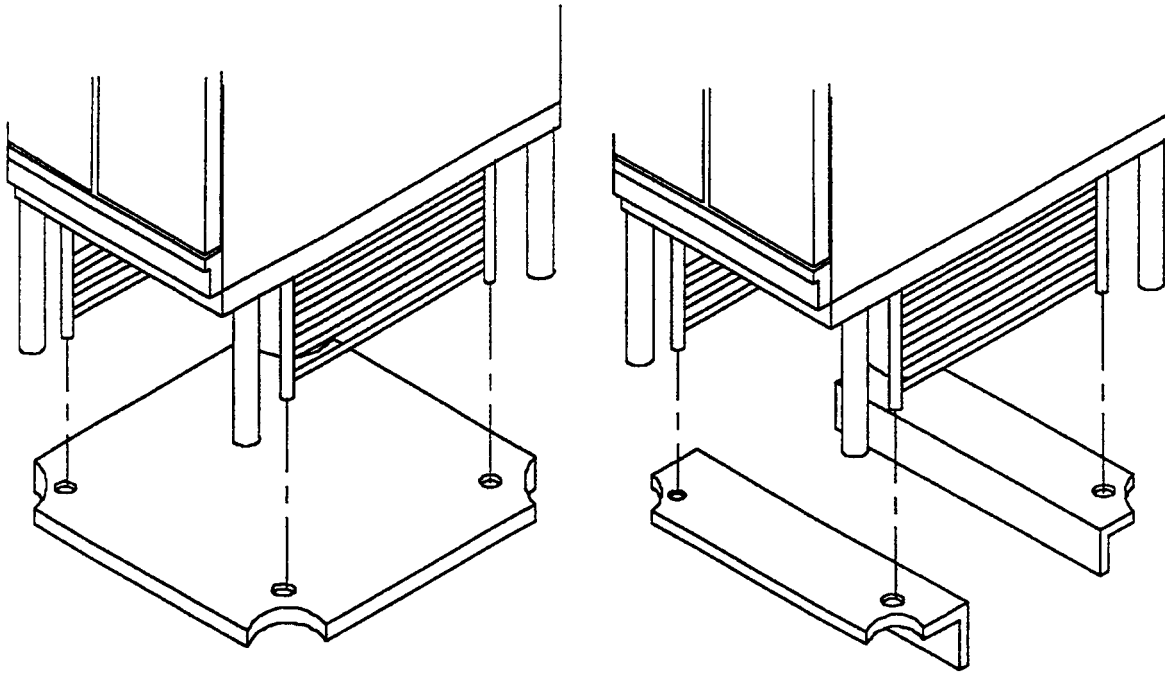

FIGURE 15 6. Secure bottom of rack guide to shelf or front and rear channel frames with side rack clips. Refer to figure 16.
5. Insert bottom of rack guides into front and rear holes in shelf. If you have an open rack guide kit, insert bottom of rack guides in to holes in the left and right side of front and rear channel frames. Refer to figure 15.